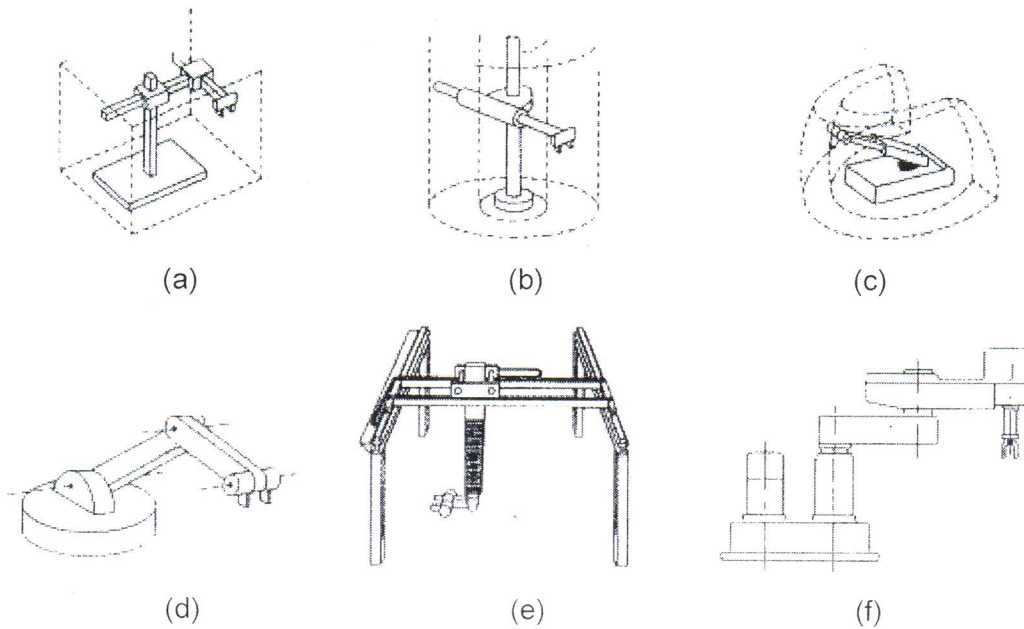

Figure 2: Robot arm configurations
- (a) State each of robot arm configurations shown in **Figure 2**.
- (b) List an advantage and disadvantage of robot manipulator in **Figure 2(b)**.
- (c) Give **two** (2) examples of industrial robot application for the robot arm configuration in **Figure 2(a)**.
- (d) Based on **Figure 2(a)** and **Figure 2(b)**, compare the work envelopes and explain which configuration gives the largest work envelope and justify your answer.